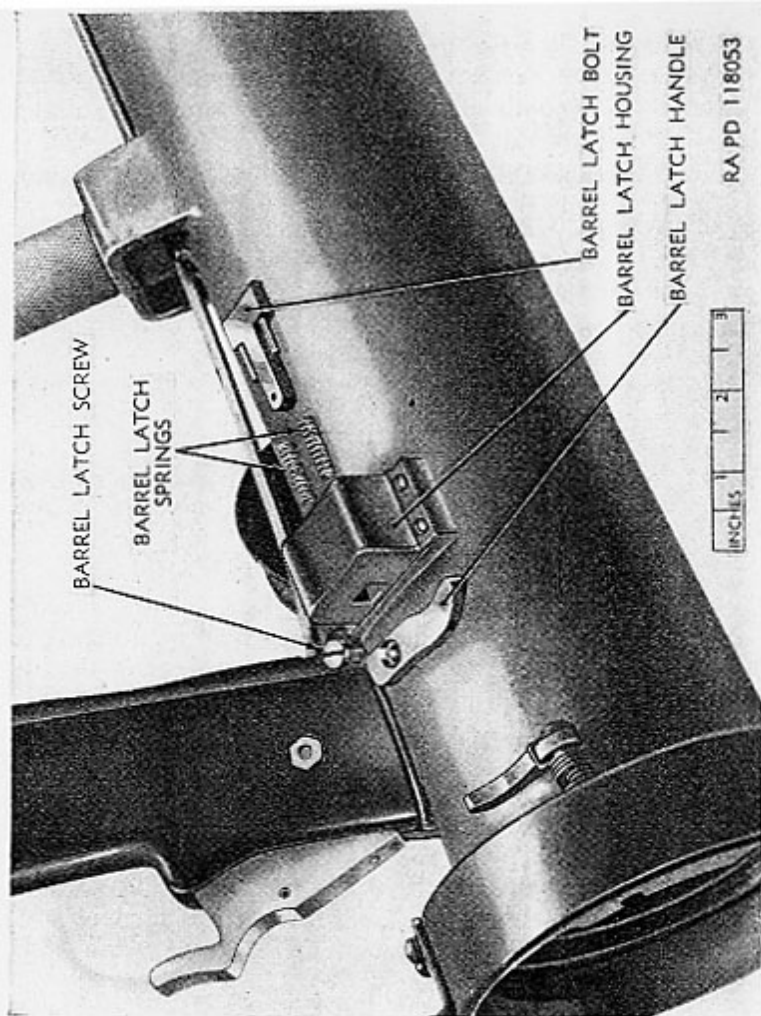
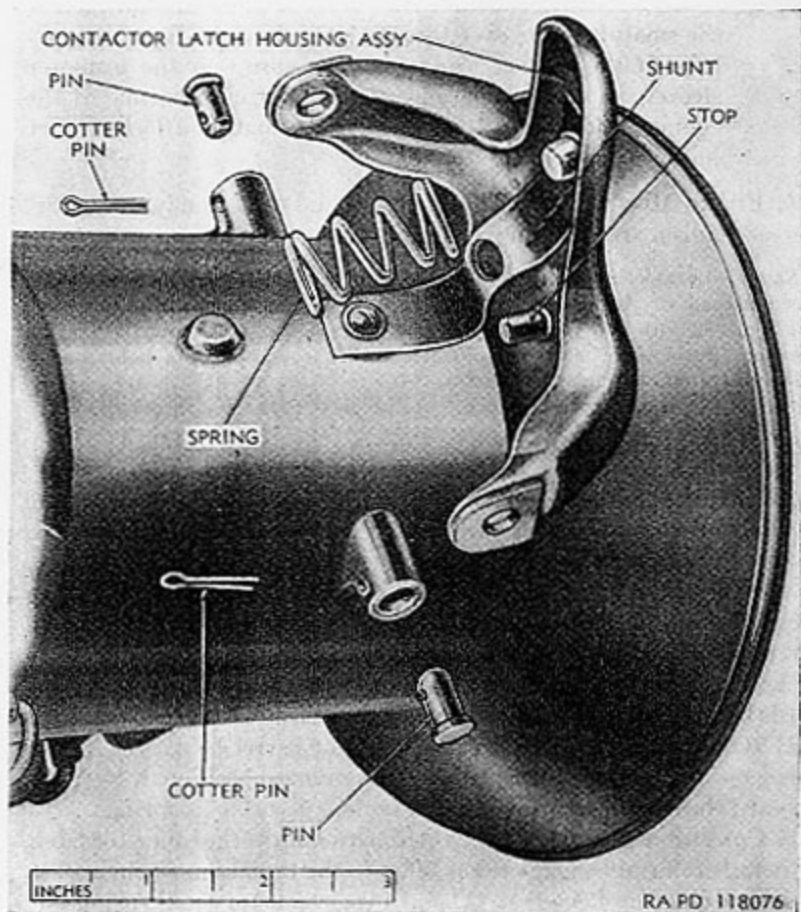

Figure 26. Barrel latch bolt and associated parts.
Figure 27. Contactor latch parts exploded.
g. BARREL LATCH (fig. 26). The steel barrel latch bolt mounts in an aluminum frame which is fastened to the rear barrel in the M20 launcher. In the M20B1 launcher the barrel latch frame is replaced by a barrel latch housing which mounts on a pad cast integral with the rear barrel.
(1) To remove the barrel latch bolt, proceed as follows:
(2) To install the barrel latch bolt, proceed as follows:
h. CONTACTOR LATCH (fig. 27). The contactor latch housing assembly mounts on the contactor latch lamp (par. 19*a*) of M20 launchers and on bosses cast integral with the rear barrel of M20B1 launchers.
(1) To remove the contactor latch body from the contactor latch clamp or from the mounting bosses, proceed as follows: